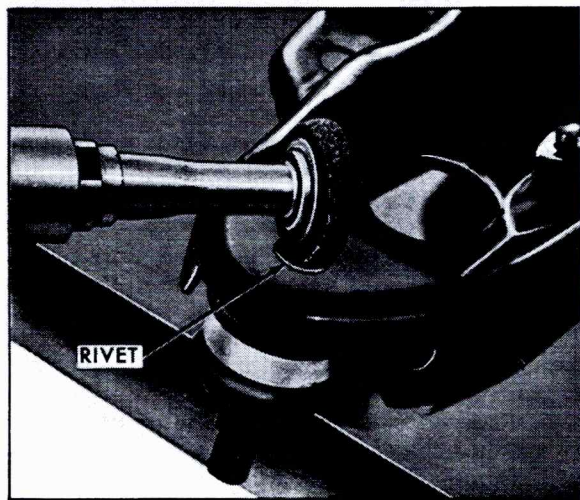

Fig. 3-52 Removing Lower Spherical Joint Center Rivet
4. Place lower control arm right side up and grind large rivet head off as shown in Fig. 3-52.